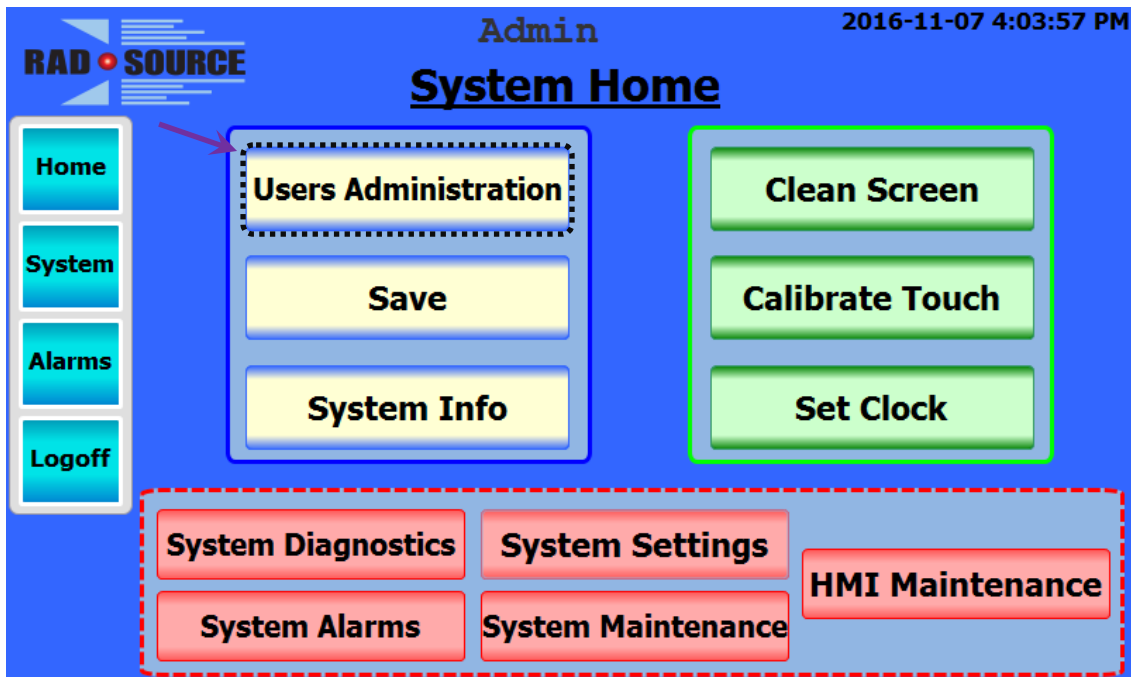

Figure 25: Users Administration Button
2. Select *Users Administration*. (See Fig. 25.)
4. Select *Users Administration*. (See Fig. 25.)